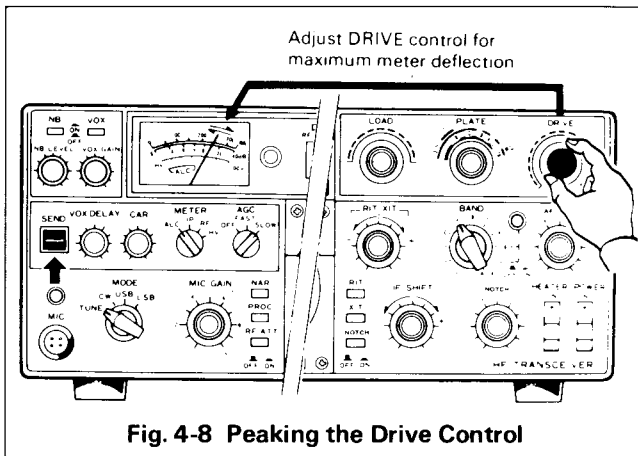

Fig. 4-8 Peaking the Drive Control
- Place MODE switch to TUNE, METER switch to ALC. Peak the DRIVE control. If the meter pegs or goes out of the ALC range, reduce the CARRIER control setting for an on-scale reading. (the CAR control is a level adjustment, while the drive control is a resonating adjustment.) Fig. 4-8
- Place the meter switch to RF. Close the key and repeat the LOAD for maximum RF output. You may at your option also redip the PLATE for maximum RF output. Fig. 4-8